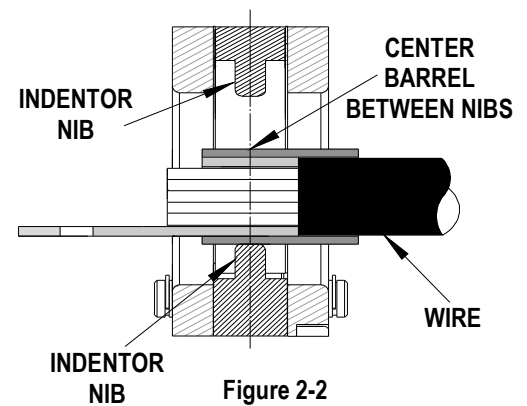

Figure 2-2
2. Position terminal between indentors and pump tool handle to hold terminal in place. Fully insert the wire or cable into barrel of terminal. Be sure the terminal is properly positioned in the center of the indentors. See Figure 2-2.